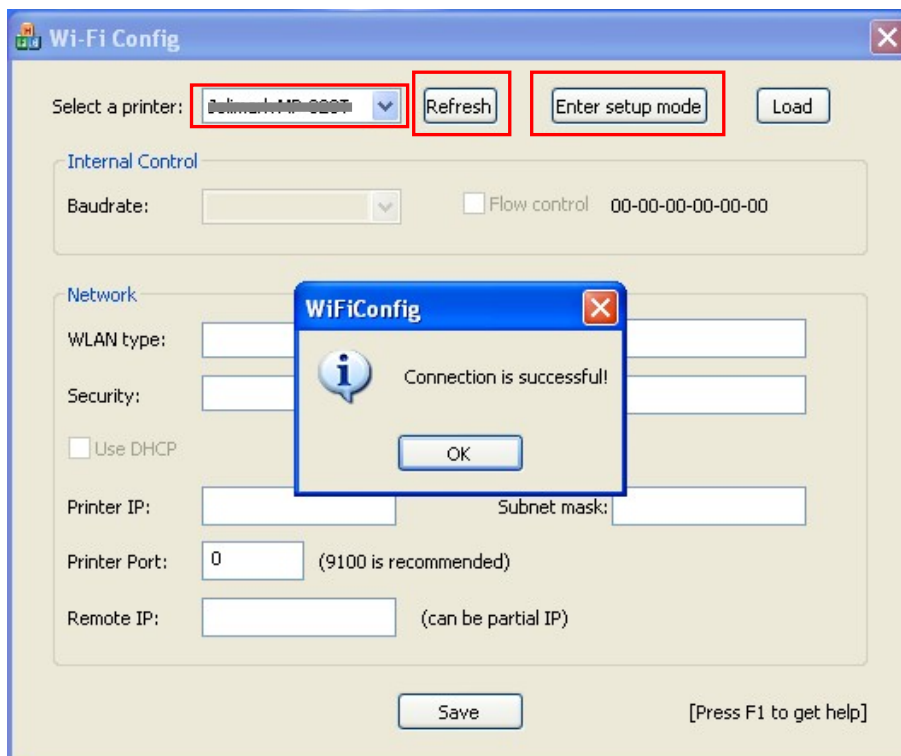

Figure 2
2. Click “Enter setup mode”, then a figure of software as figure 2 pops up. The printer and computer is connected successfully when the dialogue box “Connection is successful” appears. Click “OK”.